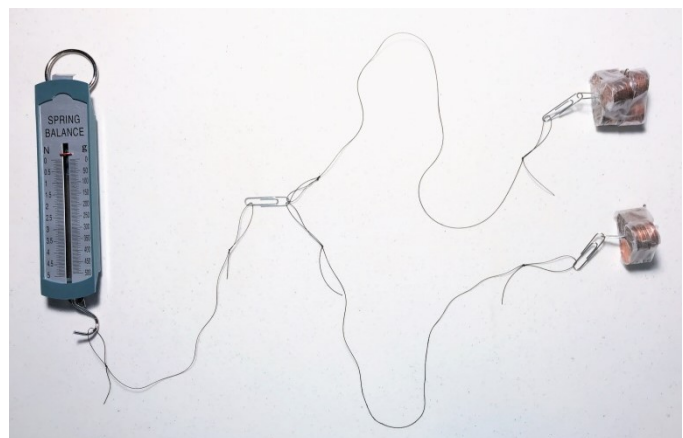

Fig. 12: Spring balance and weights connected by thread and paperclips.
1. Arrange the spring balance and weights as shown in Fig. 12. Note that the end of the paperclip from the spring balance will act as the intersection point of all three strings.